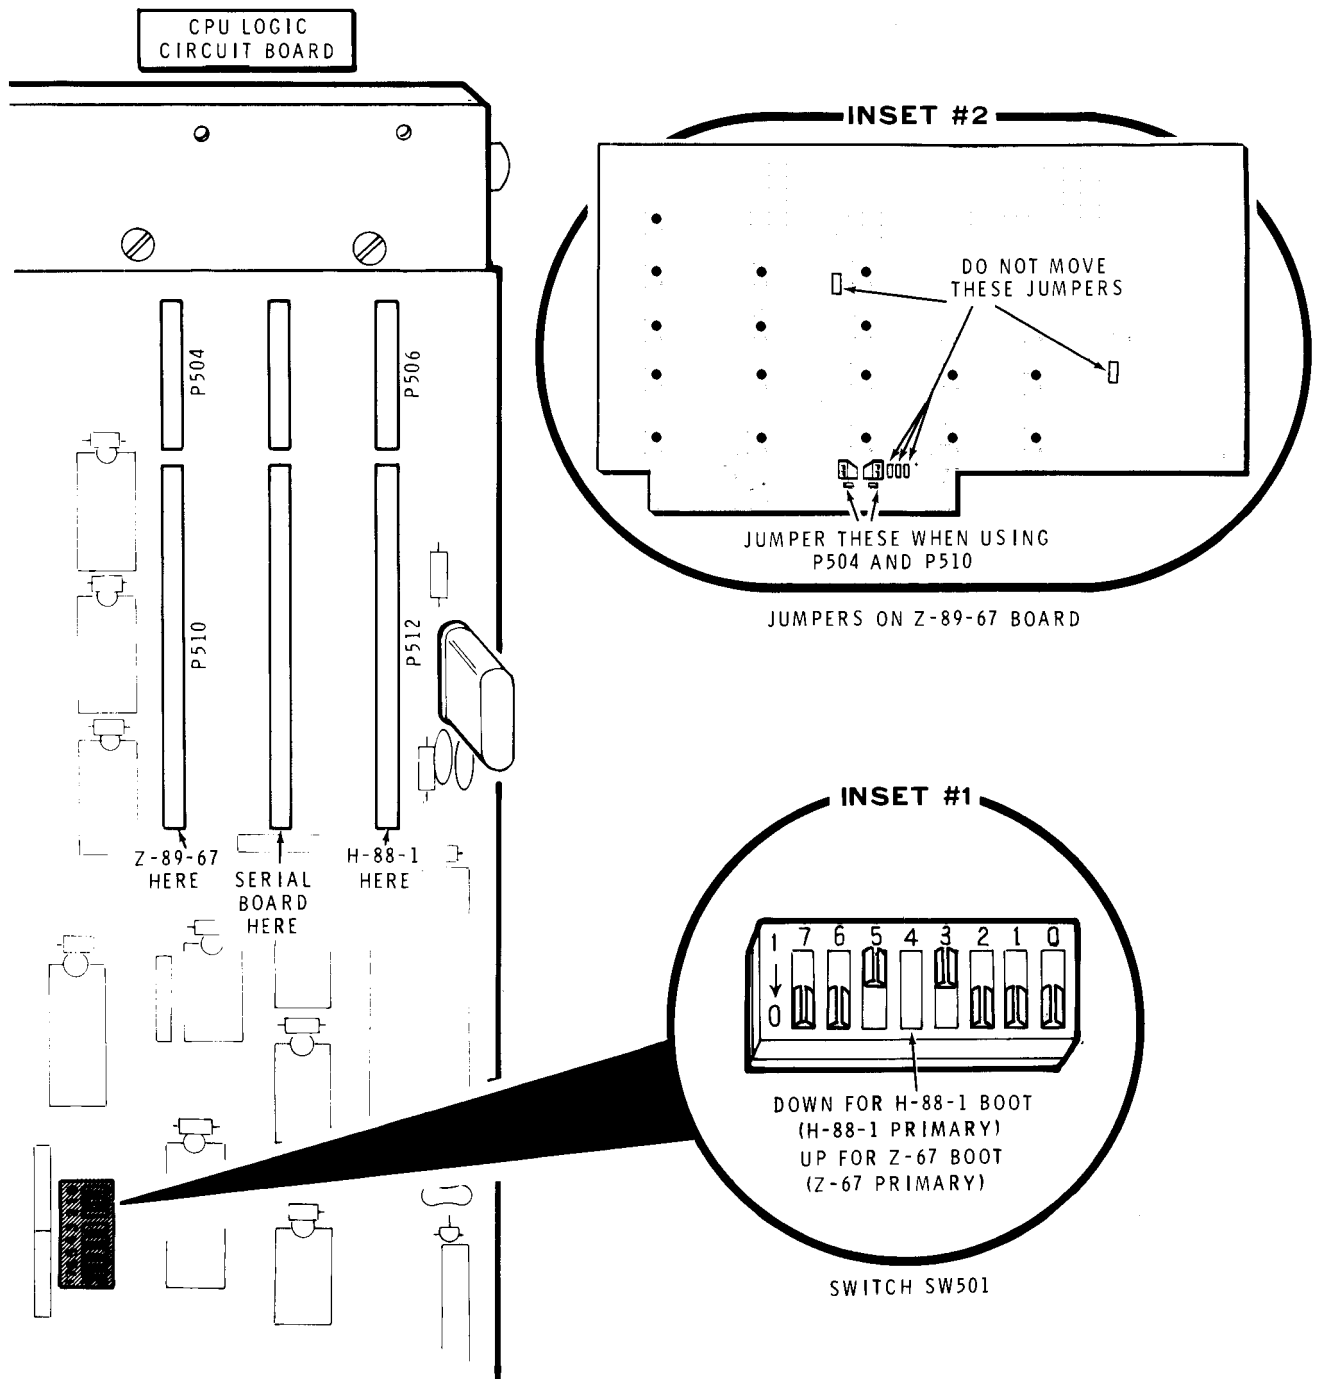

Figure 3-4
2. An **H-88-1 Disk Controller**, you must install your Z-89-67 Interface Board as shown in Figure 3-4 on Page 3-7. Set switch SW501 as shown in inset drawing #1, and the jumpers as shown in inset drawing #2.